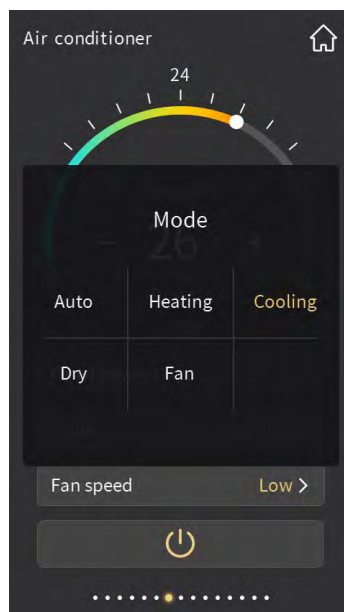

Fig.2.4.4
- ⑧ Enter the mode setting by touching this tile, and will pop up a sub-window shown as Fig.2.4.4;